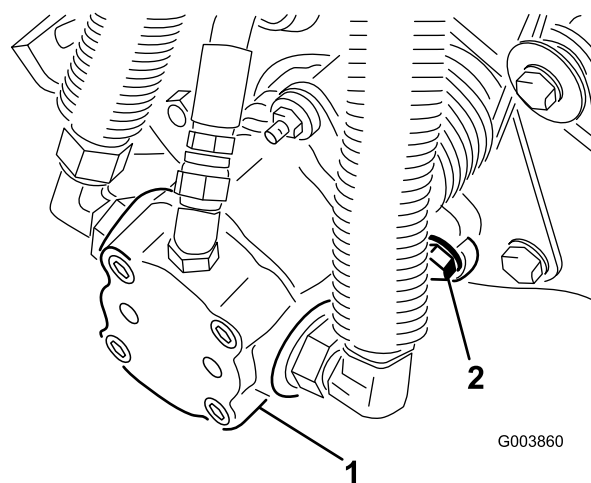

Figure 10
7. Assemble the mounting nuts for the reel drive motor to each cutting unit (Figure 10). Leave approximately 1/2 inch (1.25 cm) of threads exposed on each mounting stud.